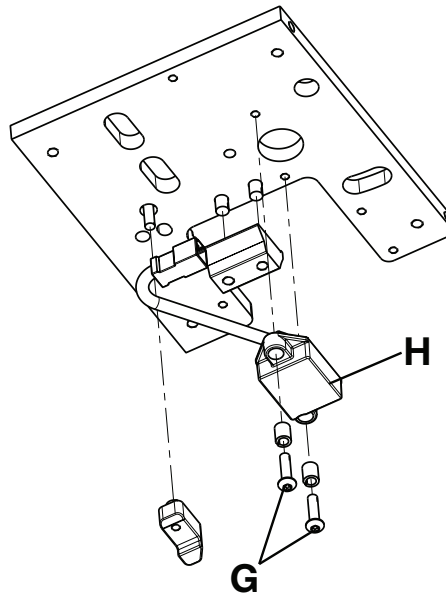

Figure 32 – TPS assembly bottom view
7. Using a 1/4" ratchet and a T25 Torx driver, remove the two button head cap screws (G) that secure the TPS assembly (H) (Figure 32). Save the screws.